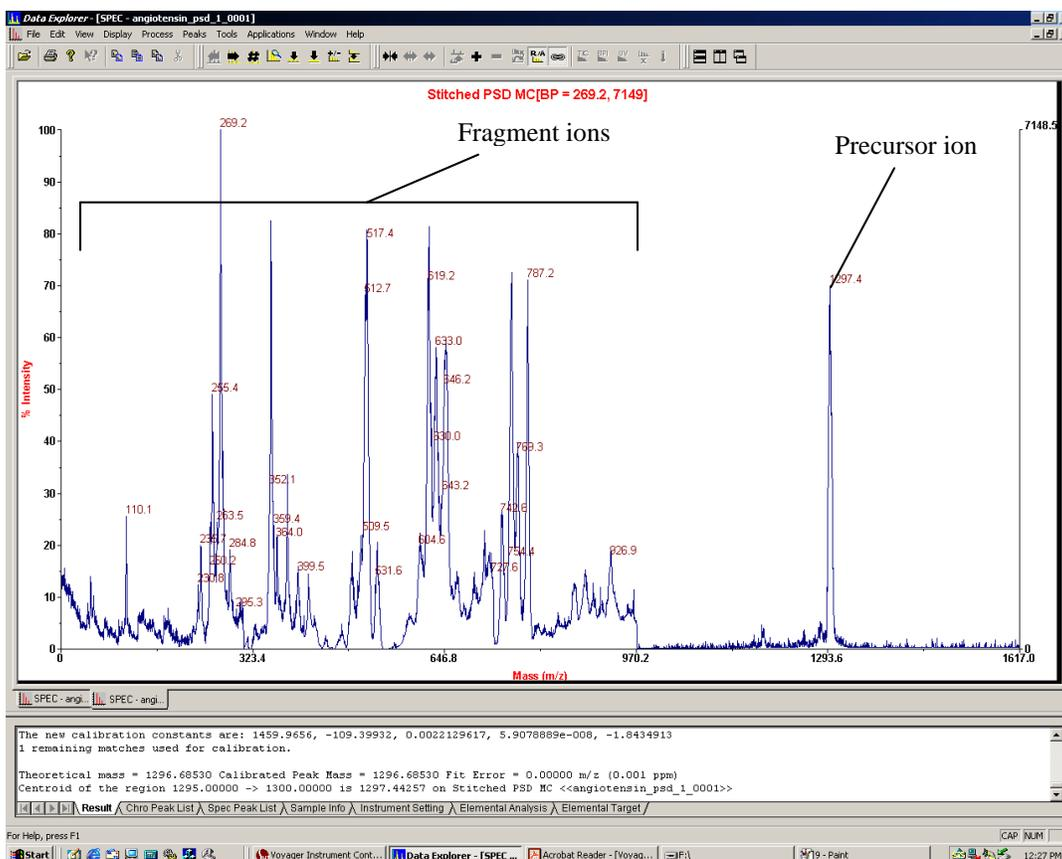

Figure 3: PSD spectrum of angiotensin.
- 3.11 Open angiotensin_PSD.dat in Data Explorer (*Figure 3*).